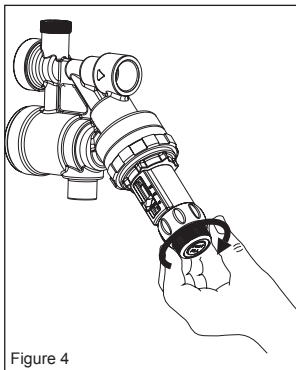

Figure 4
2. Once the desired pressure setting is reached turn the lock knob clockwise until it is finger tight (see figure 4).